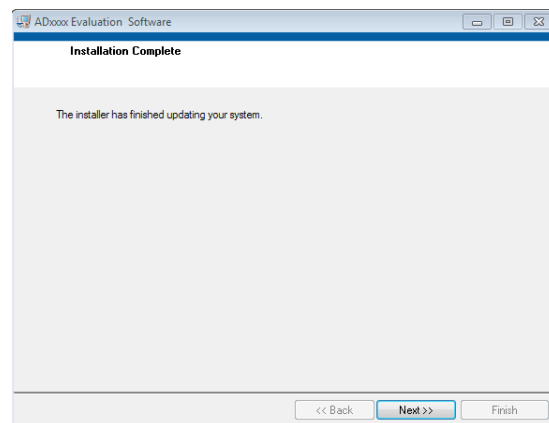

Figure 5. Installation Complete Window
7. A dialog box informs the user when the evaluation software installation is complete. Click **Next** to proceed with the installation of the SDP drivers (see Figure 5).